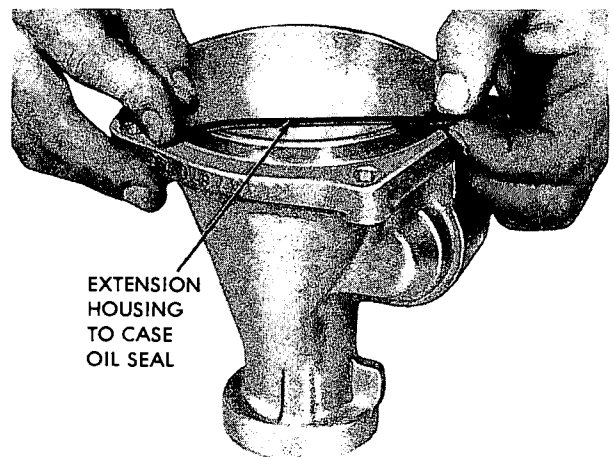

Figure 7C-165
2. Align slot in speedometer drive gear with retaining clip and install. See Figure 7C-163.